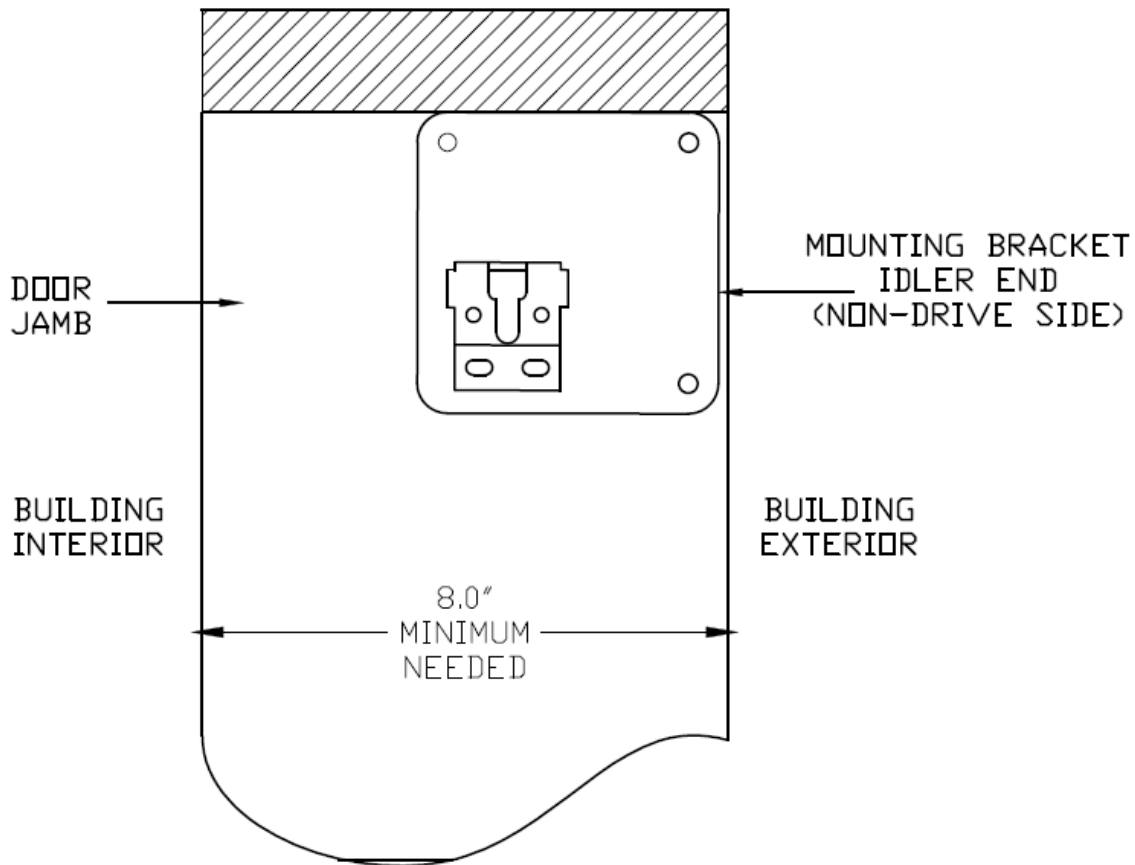

FIGURE 2
STEP 4. Mount the bracket at the top of the jamb, so that it is within a 1/2 inch of the exterior of the building (**See Fig. 2**).